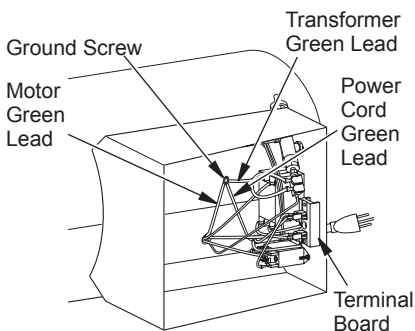

Figure 5 - Location of Ground Screw
2. Access ground screw through underside of heater base. Remove ground screw. Disconnect the green motor wire and the green power cord wire from underside of shell (see Figure 5).
3. Remove black and white motor wires from terminal board (see Figure 5).
16. Turn heater on its side to access opening in bottom of base. Connect green wires from motor, transformer and power cord to heater shell using ground nut (see Figure 5).